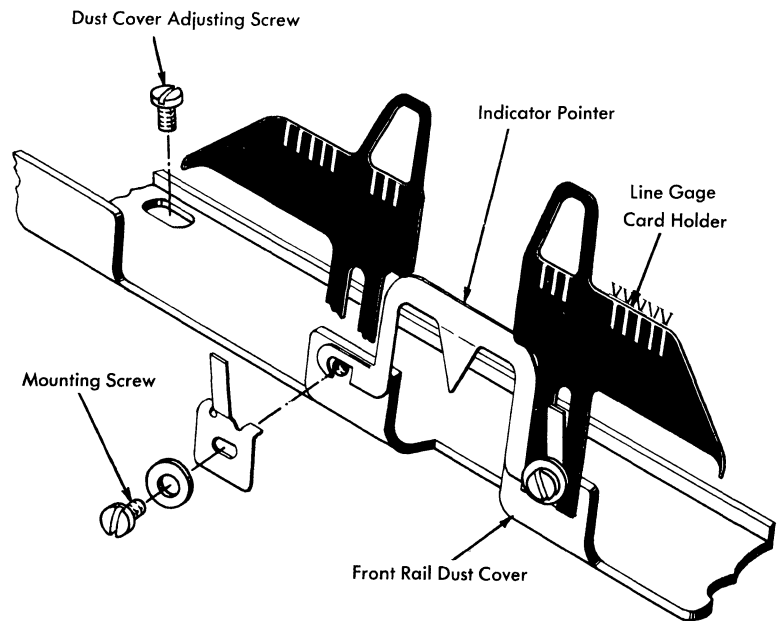

Figure 21. Line Gage Card Holder Adjustment
1. Position the line gage card holder laterally by shifting the entire front rail dust cover on its elongated mounting holes. Align the graduations with the typed V's (Figure 21).
2. Adjust the vertical position of the line gage card holder and the position of the indicator pointer by their mounting screws (Figure 21). Position each side of the line gage card holder up or down until the top edge of the gage is level with the bottom of the line of type. Position the indicator pointer laterally so that it is centered with respect to the typebar guide throat.